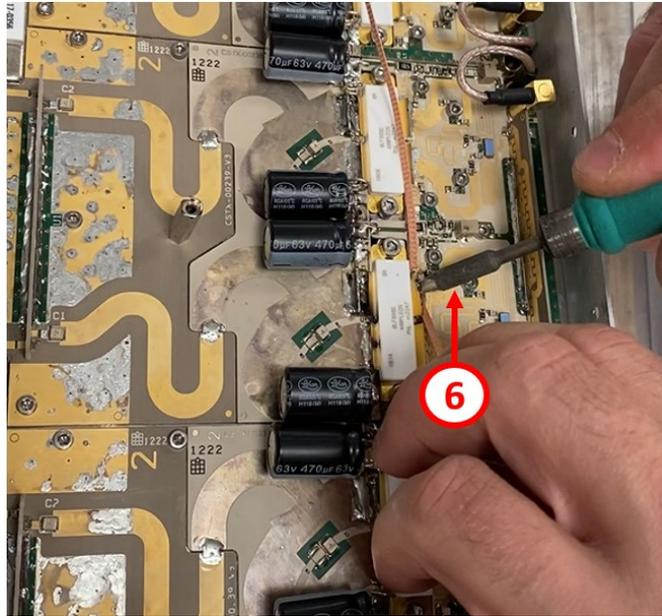

Figure 132: Remove solder from under tabs with solder wick
STEP 6: Remove defective FET by unsoldering tabs (4 places) and removing flange mounting bolts (2 places). Optionally remove and set aside drain choke coils highlighted in dashed yellow (2 places). Use solder wick to remove solder from under all four FET tabs, as shown in Figure 132, prior to attempting to pry FET up from heatsink base.